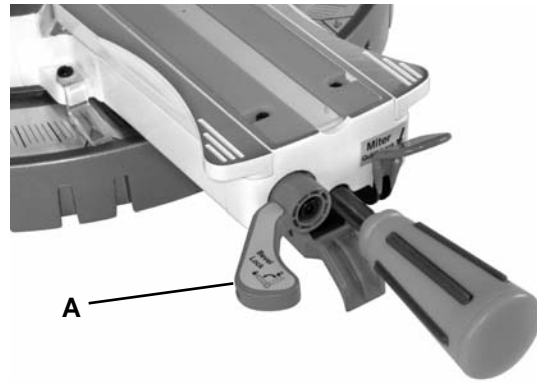
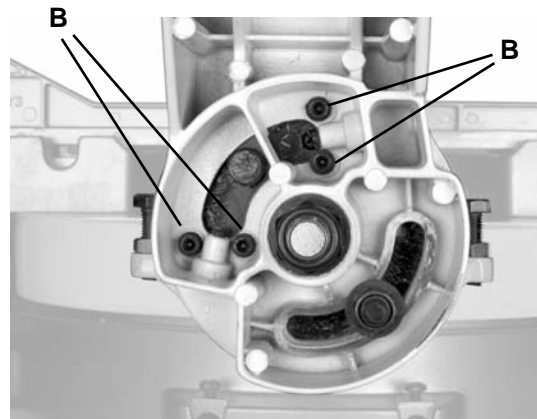
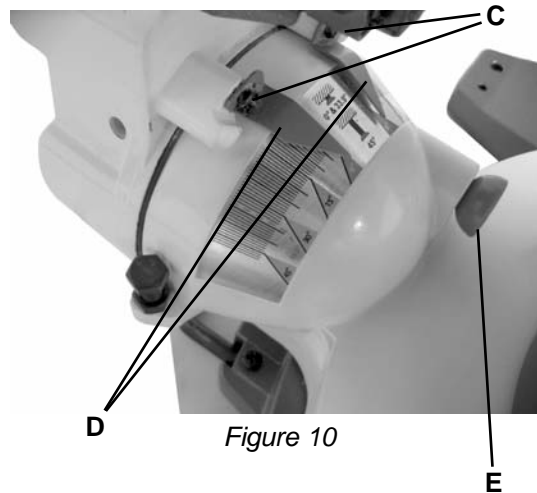

Figure 8
Figure 9
Figure 10
1. Turn the *bevel lock handle* (A, Fig. 8) clockwise to loosen and tilt the cutting arm while pushing the *bevel detent pin* (E, Fig. 10) in against the 0° bevel stop. Turn the *bevel lock handle* (A, Fig. 8) counterclockwise to tighten.
3. Using a 5mm hex wrench, loosen four *adjustment bolts* (B, Fig. 9) at the back of the miter saw. Unlock the *bevel lock handle* (A, Fig. 8) and position the cutting arm to be zero degrees to the table using the combination square as your reference.
4. Tighten the *bevel lock handle* (A, Fig. 8) and the four *adjustment bolts* (B, Fig. 9).
2. With cross-point screwdriver, loosen two *bevel indicator screws* (C, Fig. 9).
3. Adjust *bevel indicators* (D, Fig. 9) to the “0” mark on the bevel scale and retighten the screws (C, Fig. 9).
1. Set the miter angle to zero degrees. Fully extend the sliding fence completely to the left then pull the *bevel detent pin* (E, Fig. 10) out.
2. Loosen the *bevel lock handle* (A, Fig. 8) and tilt the cutting arm completely to the left (Figure 11).
2. Loosen the *bevel lock handle* (A, Fig. 8) and tilt the cutting arm completely to the right (Figure 13).
2. Loosen the *bevel lock handle* (A, Fig. 8).